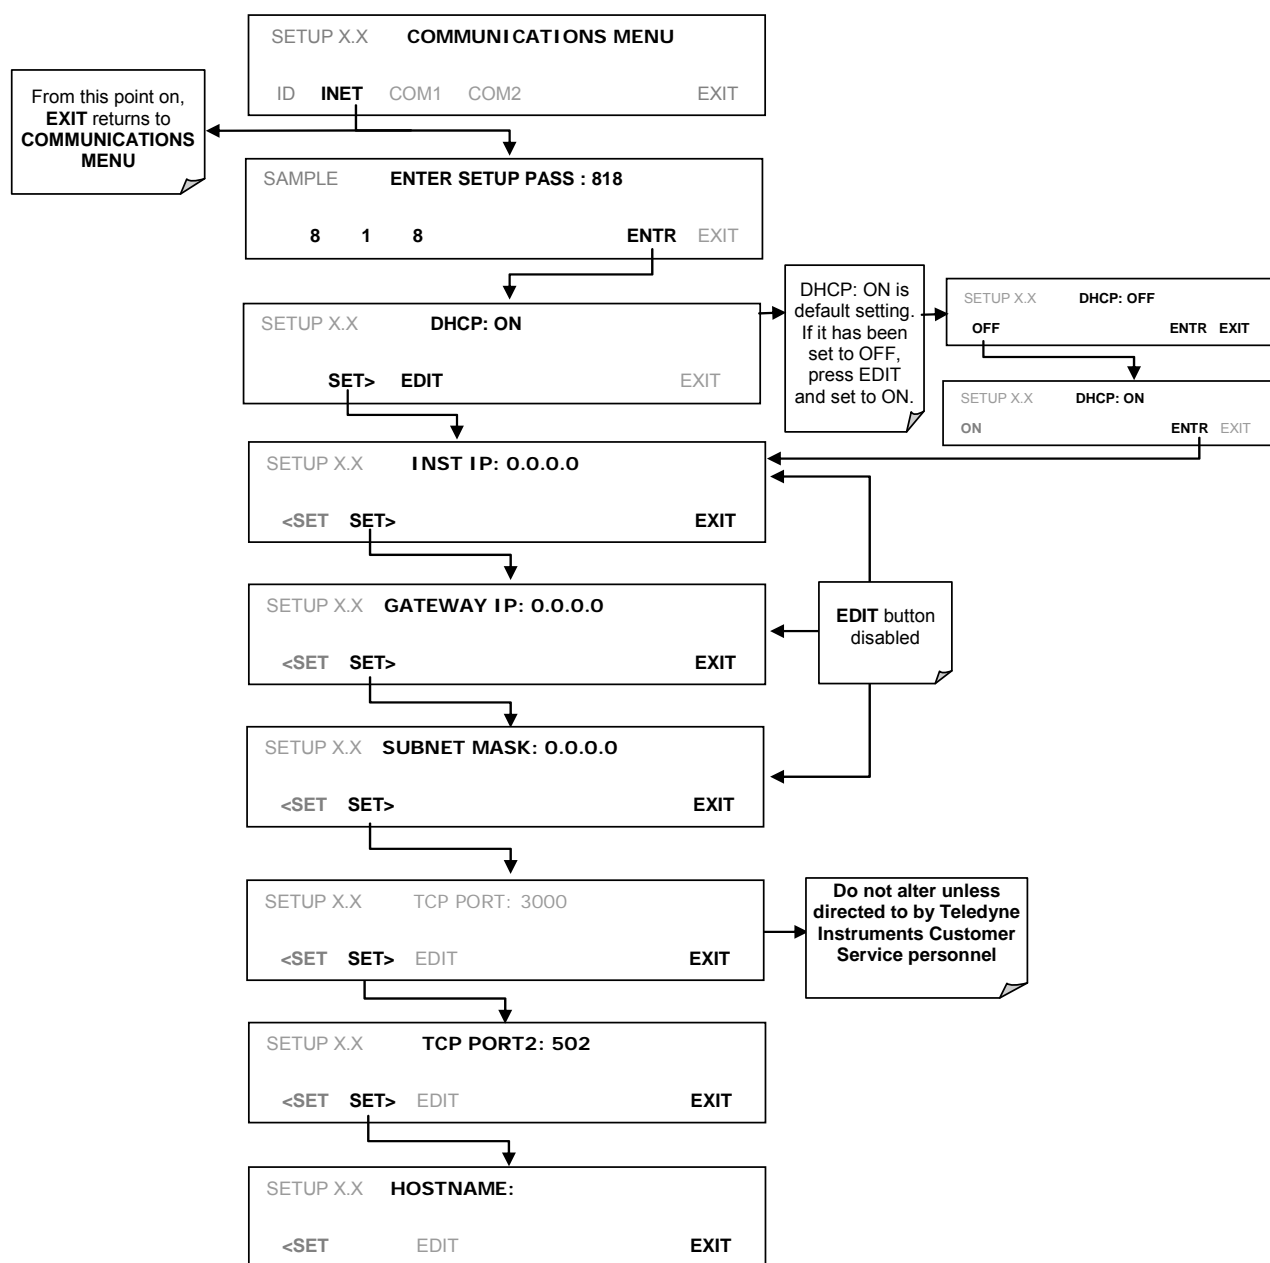

Figure 6-5: COMM – LAN / Internet Automatic Configuration
3. Follow the setup sequence as shown in Figure 6-5.